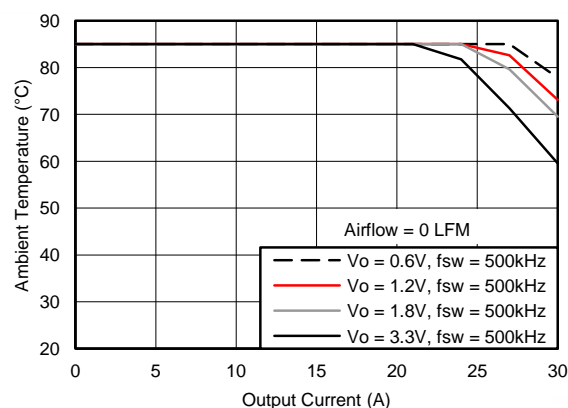
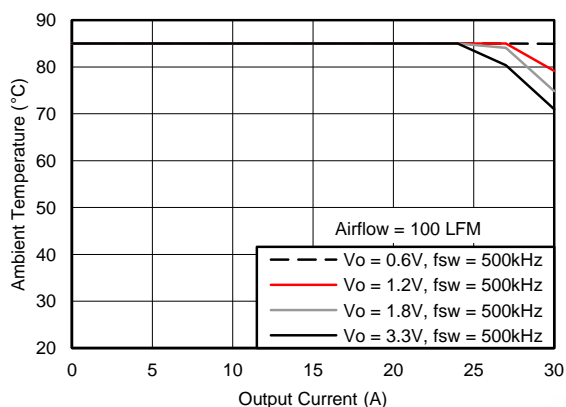
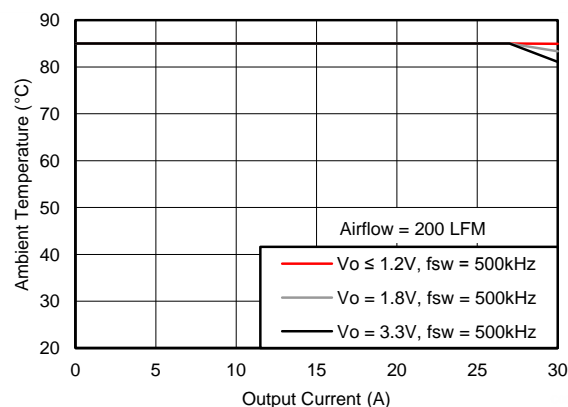

Figure 10. Safe Operating Area (0 LFM)
Figure 11. Safe Operating Area (100 LFM)
Figure 12. Safe Operating Area (200 LFM)
- (2) The temperature derating curves represent the conditions at which internal components are at or below the manufacturer's maximum operating temperatures. Derating limits apply to devices soldered directly to a 100 mm × 100 mm six-layer PCB with 1 oz. copper. Applies to Figure 10, Figure 11, and Figure 12.